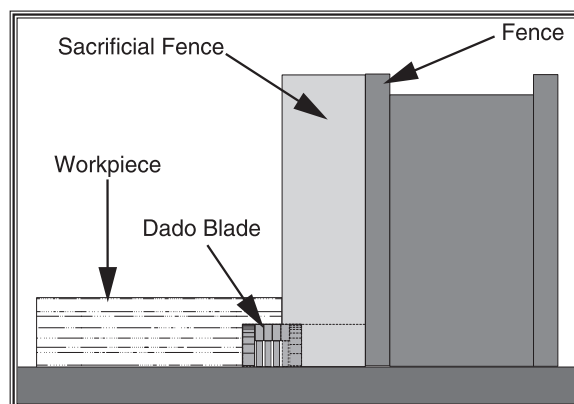

Figure 30. Rabbet cutting.
3. Adjust the fence and align the workpiece to perform the cutting operation as shown in **Figure 30**.